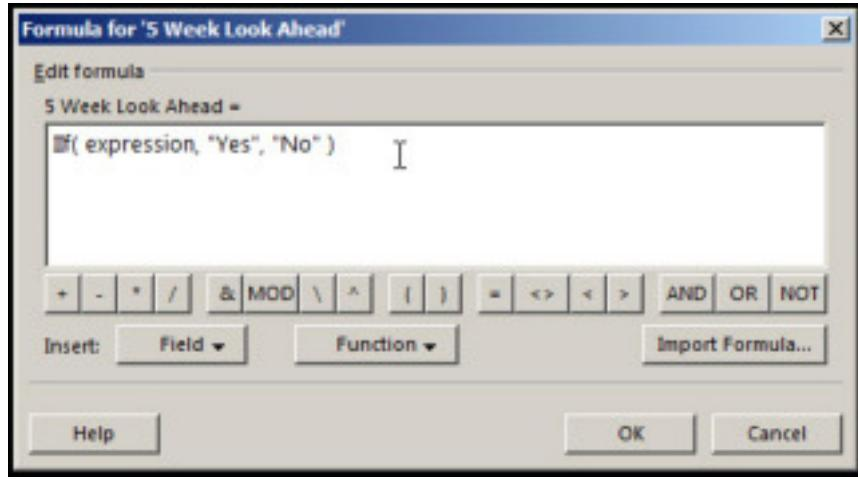

Figure 6
- F. Set the truepart to "Yes" and the falsepart to "No", Figure 6. (*Change your formula so it reads as shown in Figure 6*).